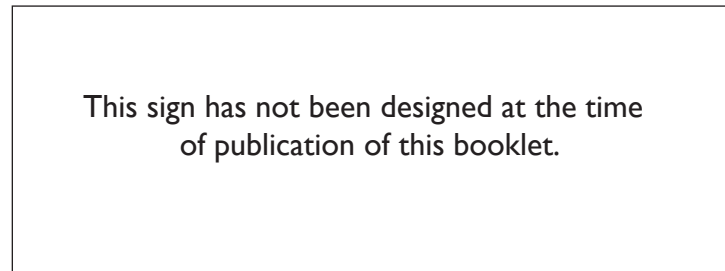

fig. 9h Residential Identity Sign
9.4.10 Residential Identity Signs are designed to identify individual residential developments (fig. 9h).